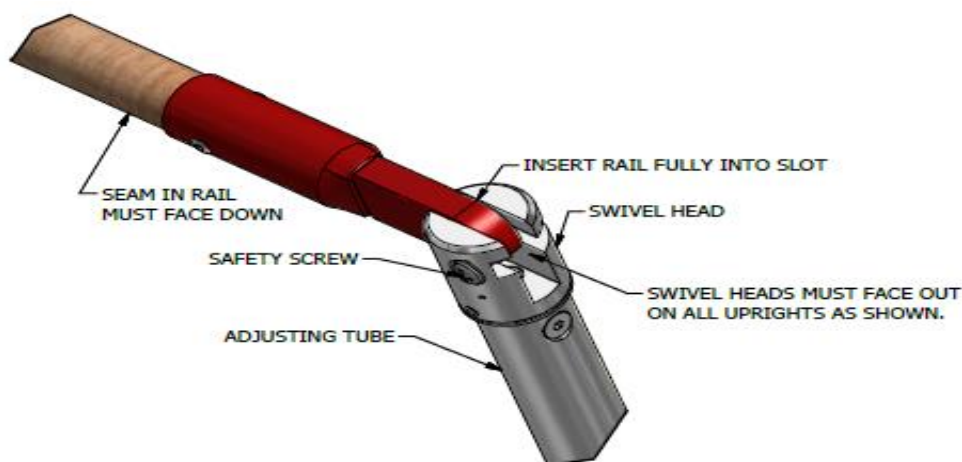

Figure 3: Rails to Uprights Assembly
- Partially unscrew the safety screws on each adjusting tube swivel head (See Fig 3 below).